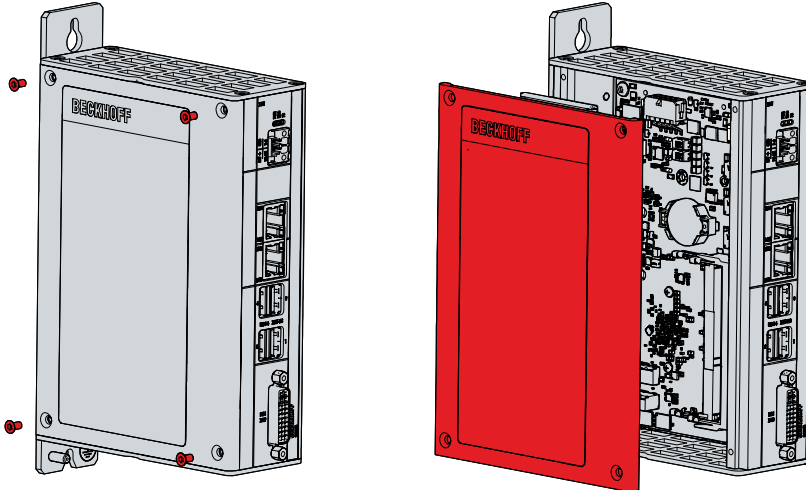

Fig. 17: Access to battery and storage medium
- ⇒ The battery is now in an oblique position (see fig. 17).
5. Push the high side of the battery down into the battery holder (see fig. 17).